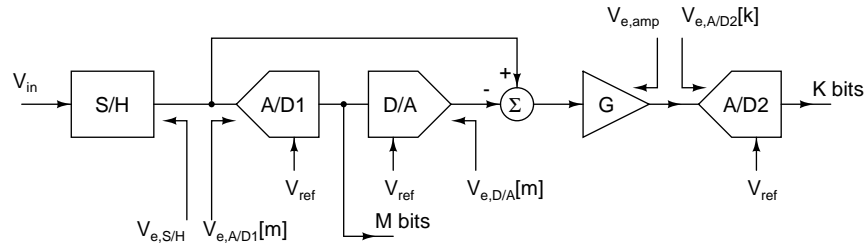

Figure 1:
1. Fig. 1 shows a two step flash converter with error correction. The overall resolution is $N = M + K - 1$ bits. The error in each block is shown as an analog voltage referred to either the input or the output. i.e. The m^{th} transition of A/D1 occurs at $mV_{LSB1} + V_{e,A/D1}[m]$ and the m^{th} output of D/A is $mV_{LSB1} + V_{e,D/A}[m]$. $0 \leq m \leq 2^M - 1$ and $0 \leq k \leq 2^K - 1$. $V_{LSB} = V_{ref}/2^N$ is the LSB voltage of the overall converter.